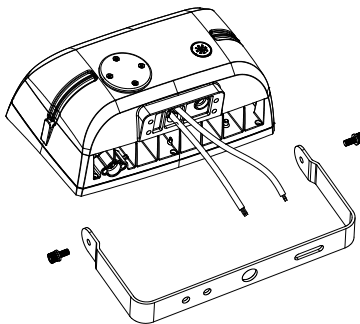

figure 3.2
Step 2: Tighten the brackets and screws.(figure 3.2)